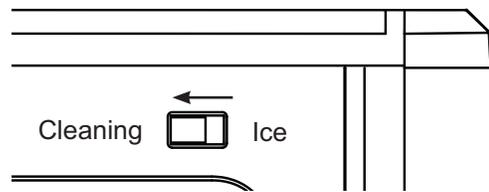

Figure 2
4. Plug in Opal and slide the rear switch to the "clean" position. See figure 2.